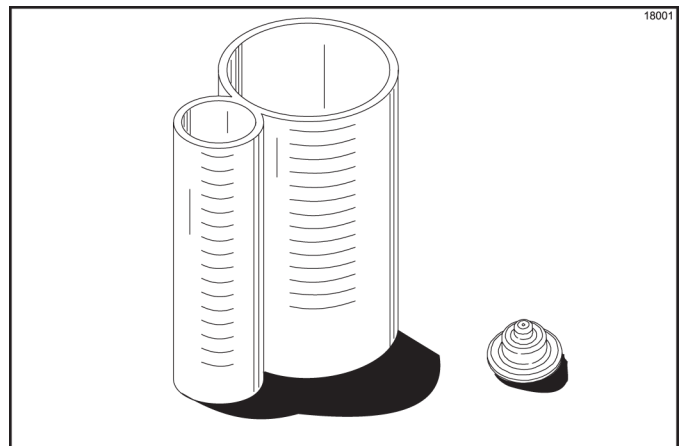

Figure 6-59
1. To determine the rate of syrup flow, you will need a syrup sampler and a calibration cup indicating fluid ounces. The proper rate of syrup flow is 1 fl. oz. (30 ml) of syrup in 5 seconds. Once this rate is set, the correct amount of syrup will be blended with the shake base regardless of the size of shake served. (See Figure 6-59.)